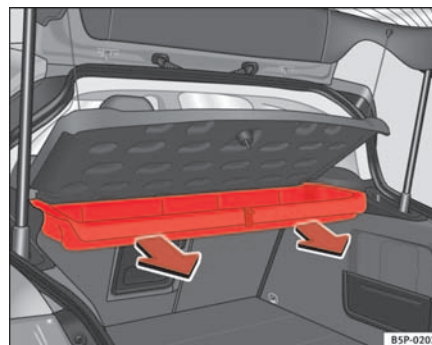

Fig. 120 Removing storage shelf
- Pull outwards until the compartment is freed from the pivot point ⇒ fig. 120.